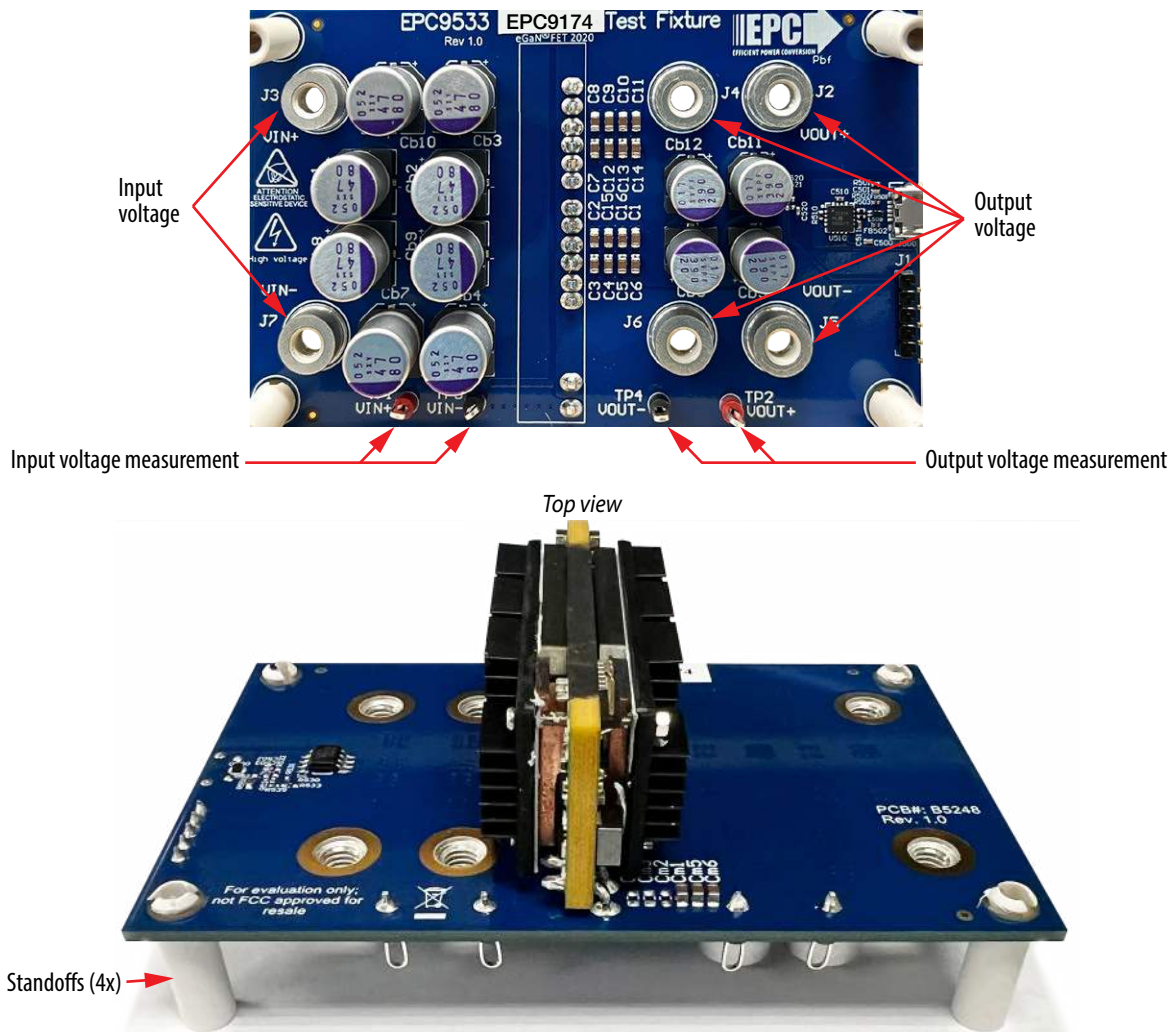

Figure 3: EPC9174 and motherboard assembly showing the input and output connections
3. With power off, connect the input power supply to  $V_{IN+}$  and  $V_{IN-}$  as shown in Figure 3.
4. With power off, connect the load to  $V_{OUT+}$  and  $V_{OUT-}$  as shown in Figure 3.
5. Connect the input and output kelvin connections shown in Figure 3 to the measurement devices.